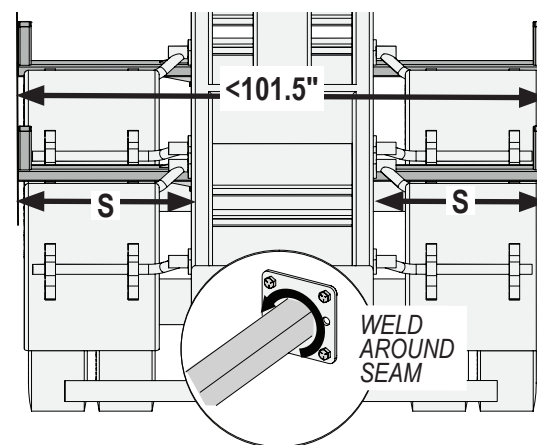

FIG. 172
- Cut **offset tubes (4)** to measurement "S" calculated in Step 2.
- Weld completely around the joint between the **offset tubes (4)** and **offset plates (1)**, see Figure 172